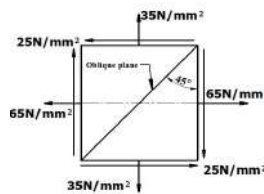

Figure 9
7. A point in a strained material is subjected to stresses shown in **Figure 9**. Using Mohr's circle, determine the normal and tangential stresses across oblique plane. check the answer analytically.